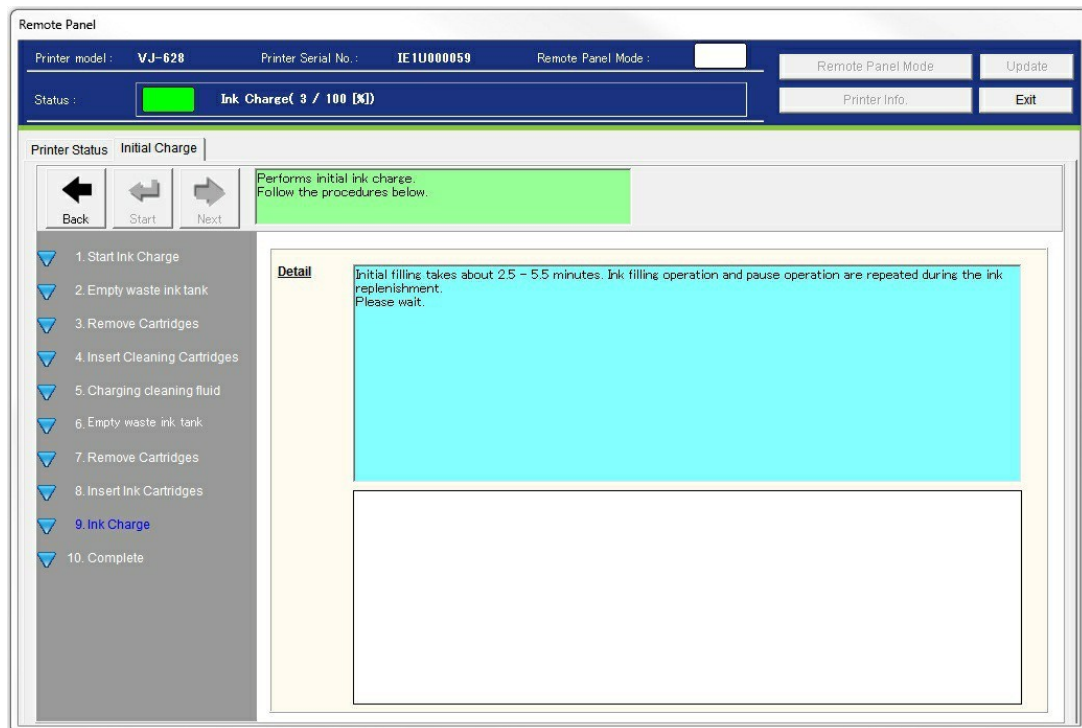

Figure 61
48. Initial filling takes about 2.5 - 5.5 minutes. Ink filling operation and pause operation are repeated during the ink replenishment. See Figure 61.